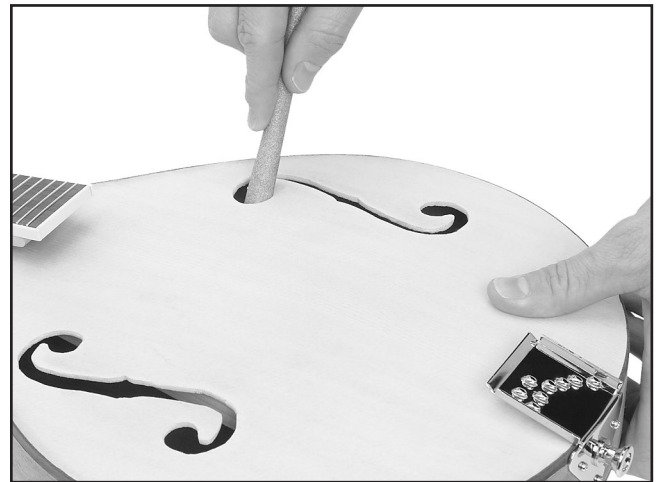

Figure 45. Sanding f-holes to raise air chamber pitch.
3. To raise the air chamber pitch to D or D#, carefully enlarge both f-holes using rolled up sandpaper (**Figure 45**) or a fine-tooth metal file. Duplicate the pitch corrections on both f-holes while aiming for a symmetrical, aesthetically pleasing shape.